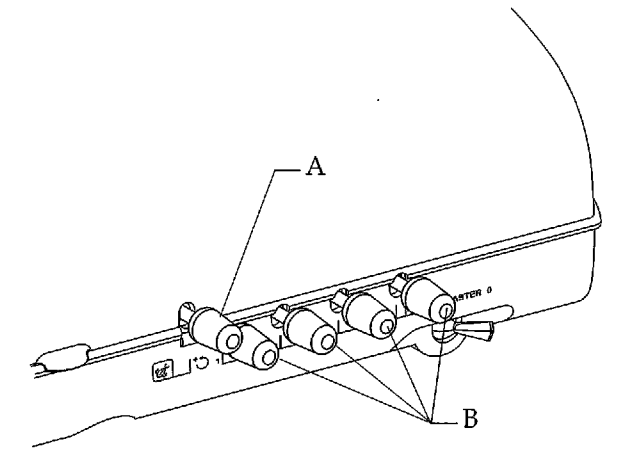

Figure 67. Handpiece adjustment keys. (A) air coolant; (B) water coolant
4. Turn the water coolant adjustment key to adjust the flow to fit the operator's needs (see Figure 67).